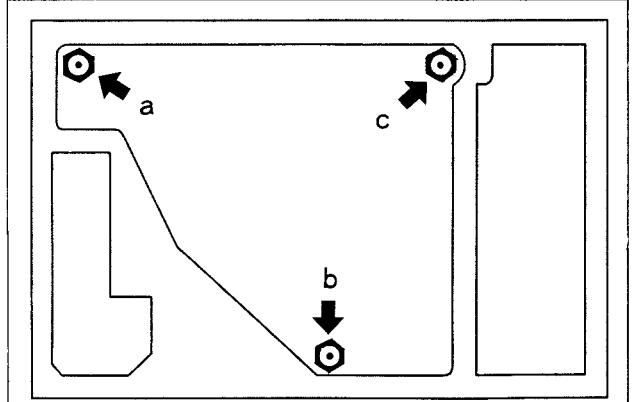
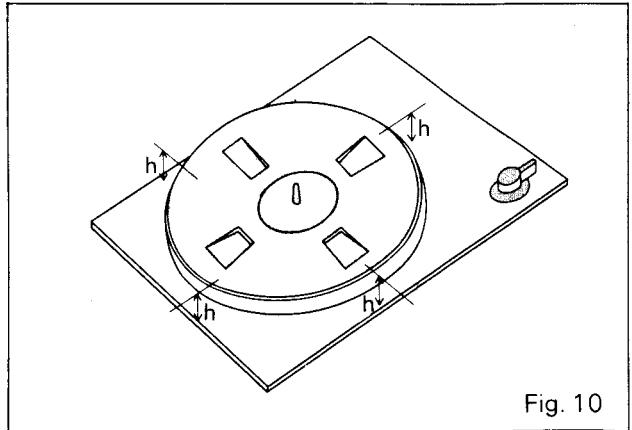

Fig. 9
Fig. 10
- Place the set with the bottom base removed on a stable table, set the turntable, the turntable sheet and a record, and adjust the height and level of the turntable with the nuts **a**, **b** and **c** in Fig. 9 to the dimensions shown in Fig. 10.